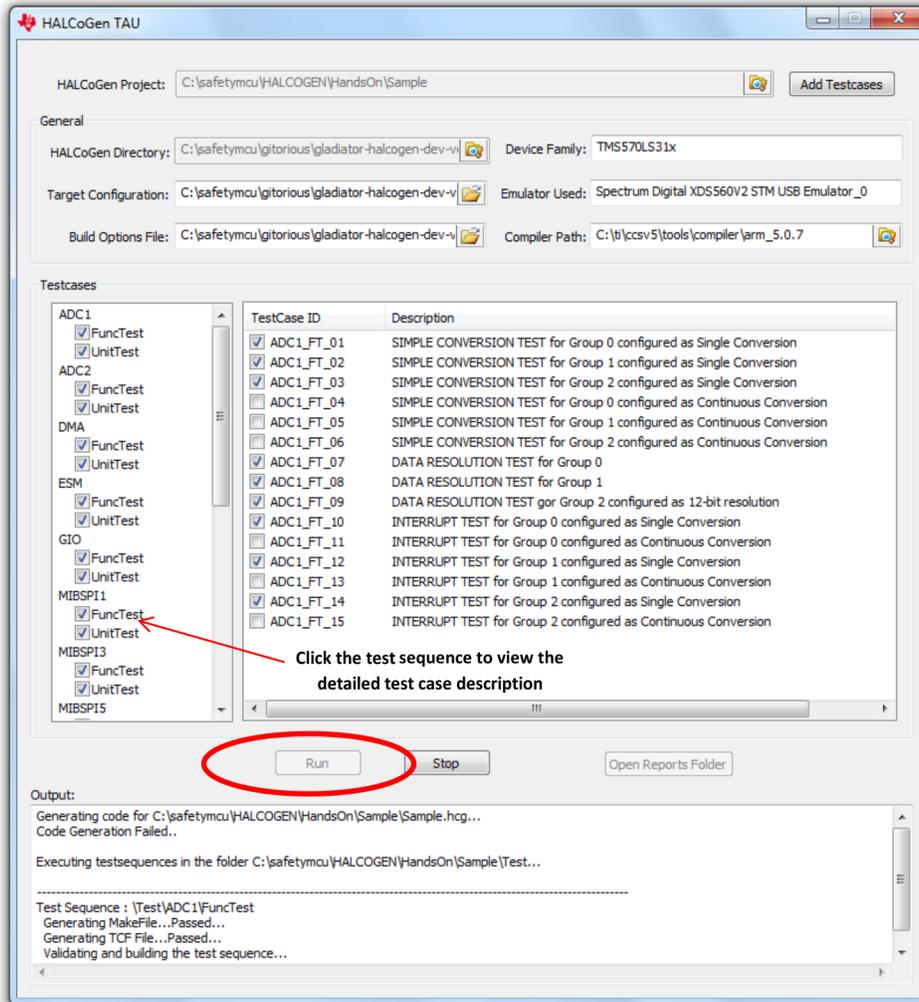

Figure 9. Test Case Selection and Run
6. Select the tests to be run and click the *Run* button (see Figure 9).